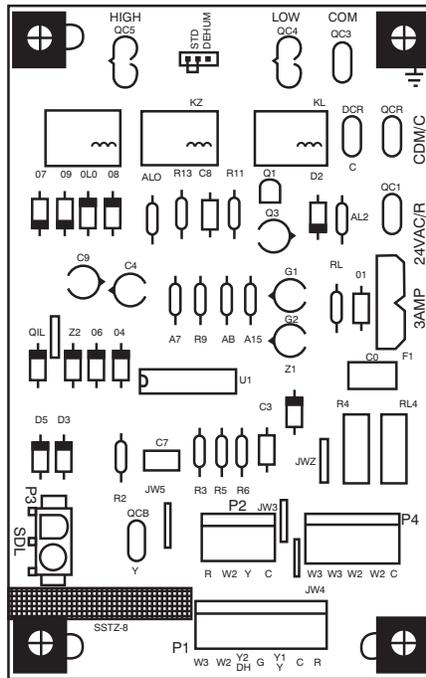

Fig. 18 - Interface Fan Board (IFB)
The cooling speed is marked “LOW” on the interface fan board (IFB) (See Fig. 18) . The factory-shipped settings are noted in Table 4. There are 4 additional speed tap wires available for use in either electric heating or cooling (For color coding on the indoor fan motor leads, see Table 3). The additional 4 speed tap wires are shipped loose with vinyl caps and are located in the control box, near the interface fan board (IFB) (See Fig. 18).
2. Remove the current speed tap wire from the “LOW” terminal on the interface fan board (IFB) (See Fig. 18) and place vinyl cap over the connector on the wire.
1. Using Fig. 18, move the two pin DEHUM jumper from the “STD” position to the “DEHUM” position.
2. Remove fan speed tap wire from the “LOW” terminal on the interface fan board (IFB) (See Fig. 18).
1. Move the two pin DEHUM jumper located on control board (see Fig. 18) from the “STD” position to the “DEHUM” position.
When the DEHUM feature is not used, the continuous fan speed will be the same as cooling fan speed. When the DEHUM feature is used, the continuous fan will operate on IFB “LOW” speed when the DH control lead is not energized, or IFB “HIGH” speed when the DH lead is energized (see Fig. 18).